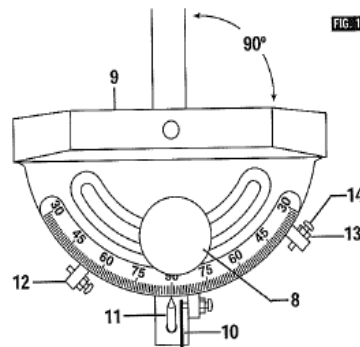

FIG. 14
1. To adjust the miter gauge, loosen lock knob 8 and set the miter gauge body 9 so the pointer 11 is at desired angle, then tighten lock knob 8 (Fig. 14).
2. Make a cut on a piece of scrap wood. Check it with a square to see if the piece of wood was cut at 90° (Fig. 14). If the piece of wood was not cut 90°, adjust the miter gauge body 9, tighten lock knob 8 and make additional cuts until you are certain you have made a 90° cut. If pointer 11 is not pointing to 90°, loosen set screw 15 adjust pointer and tighten set screw 15.